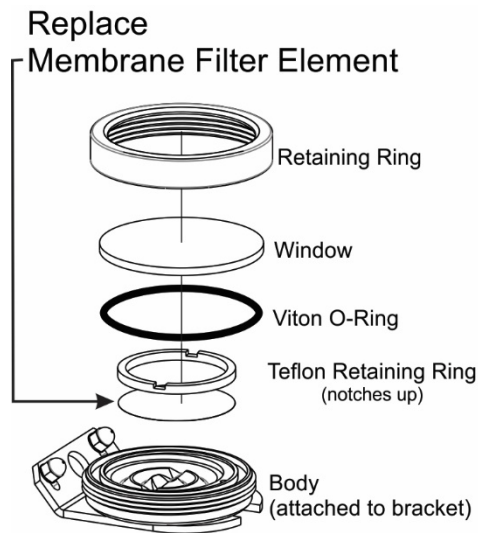

Figure 5-5. Replacing the Particulate Filter Element
2. Open the hinged rear panel and unscrew the Retaining Ring on the filter assembly (Figure 5-5).